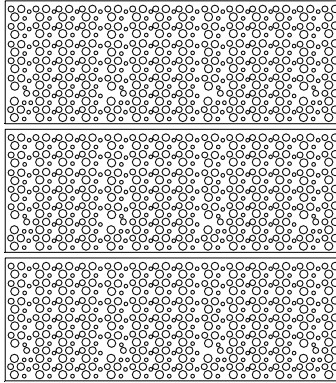

**Figure 2**
10. Torque nuts in sequence as shown in Figure 2 to 52 IN LB.
11. Retorque nuts in sequence as shown in Figure 2 to 52 IN LB.